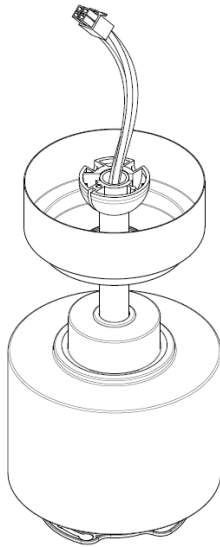

Fig.4
- Lift fan assembly onto mounting bracket. Fig.4